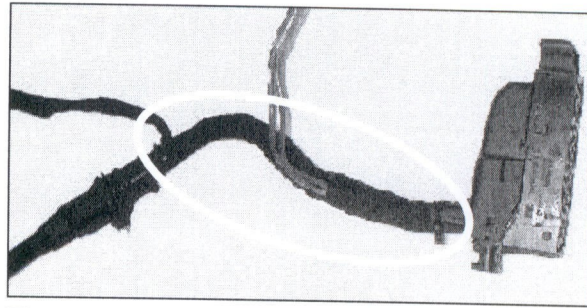

Figure 6
12. Remove fabric tape (circled area, Figure 6) from wire harness up to rubber grommet.